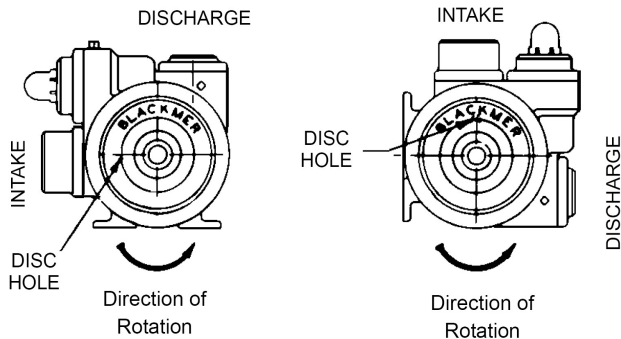

Figure 7 – Disc Relief Hole Location (4-inch Models)
- f. Position the disc relief hole so that when the head is mounted on the pump with the "Blackmer" name in an upright position, the disc hole will be towards the INTAKE side of the pump. See Figure 7.